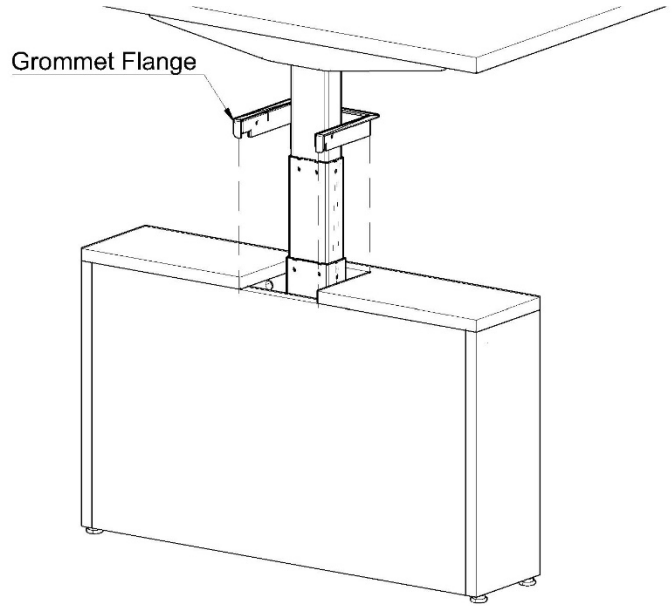

Figure 11
- 13.** Bring the Grommet Flange and place it in the cut-out of the Box Top as shown in Figure 11.